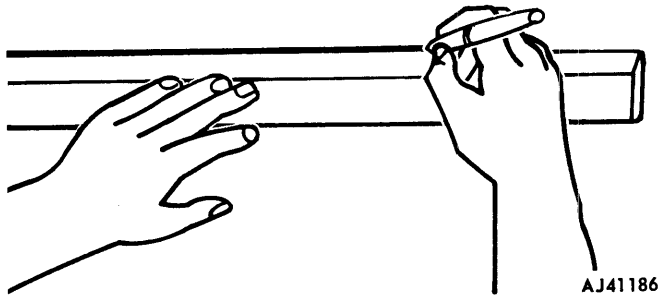

Fig. 20-14 Marking Decal Position
(1) Clean painted surface with wax and silicone remover. Use 3M General Purpose Adhesive Cleaner, or equivalent. Wipe surface with clean cloth, and allow to dry.
(2) Position decal on panel surface and mark the position with a grease pencil (fig. 20-14). Ensure that 1/2-inch excess is allowed to be wrapped around the door and fender areas. Cut decal to approximate length using scissors.